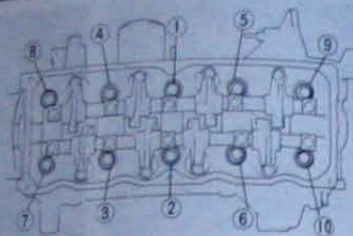

Fig. 2.15 Cylinder head bolt tightening sequence (Sec 22)
- 15 Progressively tighten the cylinder head bolts to the specified torque in the sequence shown in Fig. 2.15 (photo).